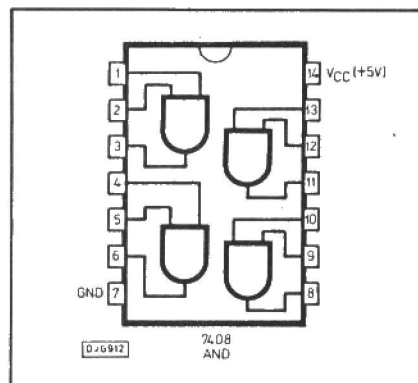

Fig.11 *The pin-out of the 7408*
The standard series of ttl ics is known as the '7400 series' or sometimes as the '74 series'. The type numbers of all ics in this series begin with '74'. An example is the 7408 ic, which contains four AND gates. The integrated circuit is enclosed in a plastic package which has 14 pins, arranged in two rows on either side. This is called a 14-pin double-in-line (dil) package. (Sometimes called 'dual-in-line'. Ed.) The pins are numbered as in Fig.11, which also shows the way the gates inside are connected to the pins.
The numbers of the pins do not appear on the ic itself, but there is either a small dot to indicate pin 1, or a semicircular cut-out at that end of the package. From Fig.11 it can be seen that each AND gate has its own two input pins and an output pin. For example, pins 1 and 2 are the inputs (A and B) to one of the gates, and pin 3 is the output (Z) from that gate.
way as the 7408 (Fig.11). Set up a 7432 on a breadboard and test it, just as in the investigation above. Compare your results with the truth table for OR.